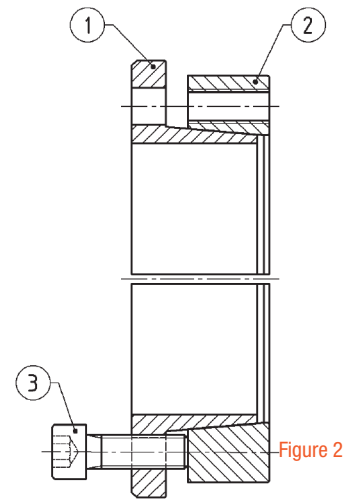

Figure 2
2. Loosen all locking screws by a minimum of four (4) turns and transfer at least three (3) screws into push-off threads in order to keep Parts 1 and 2 separated during assembly (see Figure 2).
### REMOVAL (Refer to Figure 2)